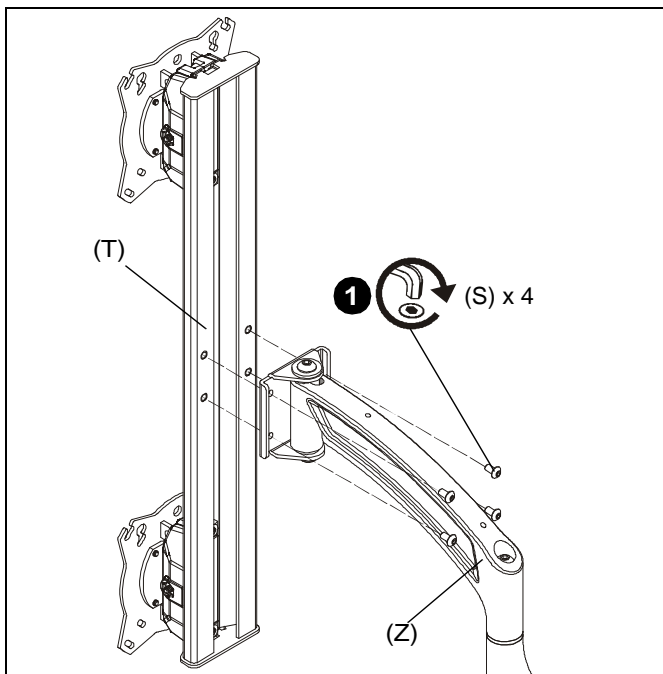

Figure 11
- Use four #10-24 x 1/2" button head cap screws (S) to secure K4W120 head assembly (T) to arm assembly (Z). (See Figure 11)